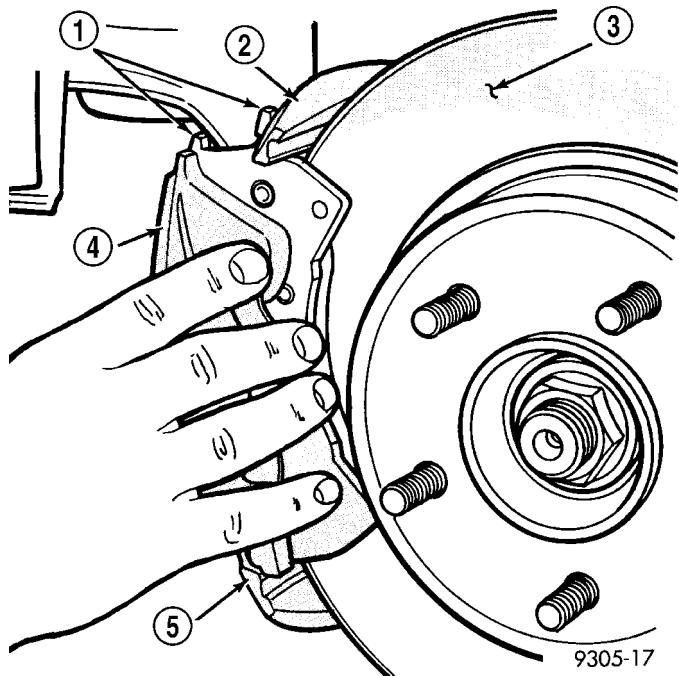

Fig. 18 Disc Brake Caliper Mounting
(11) Install front brake caliper over braking disc and align with caliper mounting holes on steering knuckle (Fig. 18). Install the caliper to steering knuckle bolts. Tighten bolts to 22 N·m (192 in. lbs.).